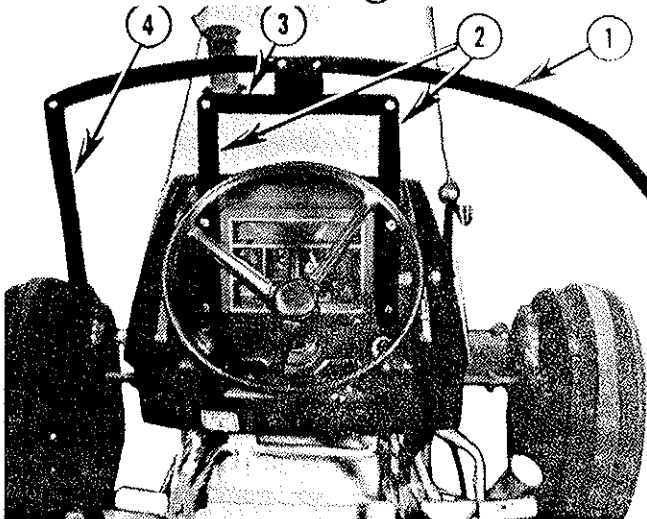
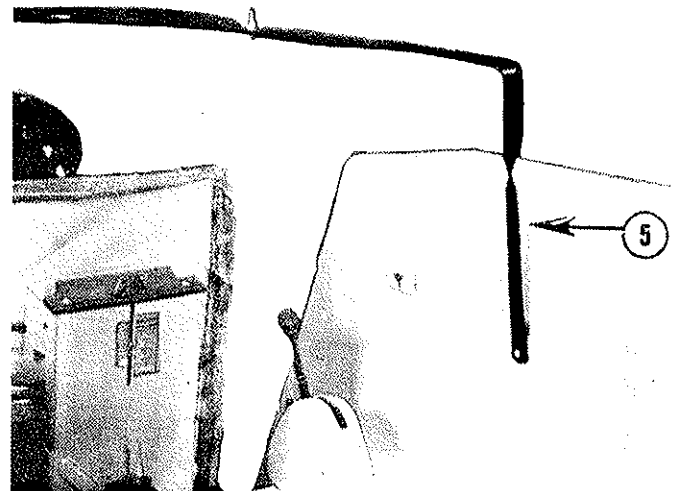

Figure 1
Figure 2
1. Remove the (4) four bolts in the dash panel and bolt (2) two #711166101 to dash using (4) four 10 x 7/8" bolts. Do not tighten at this time.
2. Bolt #720561701 yoke bracket using (2) 1/4" x 3/4" bolts and nuts. Tighten all bolts in step 1 and 2 at this time.
3. Place cover over tractor. Insert #711166701 side arm in top hem on right side of cover and #712101801 yoke in front wide hem. Bolt yoke and side arm together using (1) one 3/8" x 1 1/2" bolt and nut. See Figure 1.
4. Bolt #712101801 yoke to yoke bracket using (2) two 1/4" x 3/4" bolts and nuts.
5. Position #711166701 side arm to fender and mark holes, drill (2) two 11/32" holes in fender and bolt using (2) two 5/16" x 2" bolts and nuts. See Figure 2.
6. Slide #711166601 door post into wide hem on left side of vinyl. Bolt top of door post to yoke using 1/4" x 1" bolt and nut. Remove left front bolt from platform and bolt bottom of door post to platform using 3/8" x 3" bolt and nut. See Fig. 1 & 3.